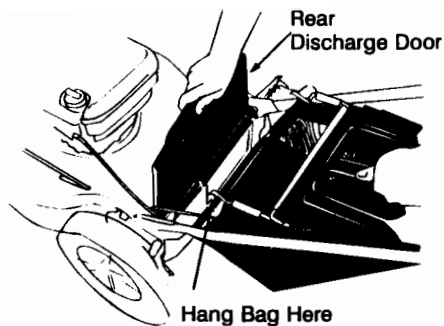

Figure 14-For Models with 14" rear wheels.
- **For Models with 14" rear wheels.** Place the hooks on the grass catcher over the rear door hinge rod. See figure 14. Release the rear discharge door.
**For Models with 14" rear wheels.** Lift the rear discharge door on the mower. Lift the grass catcher up and off the rear door hinge rod. Release the rear discharge door. See figure 14.